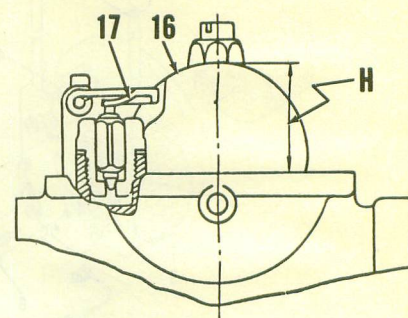
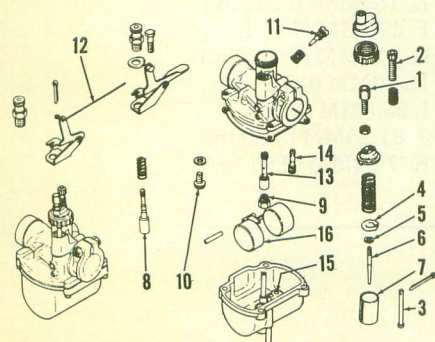

Fig. Y7-2—Float level (H) is adjusted by bending tang (17).
Fig. Y7-1—Exploded view of Mikuni VM carburetor. Starting valves for both carburetors are connected with rod (12).
CARBURETORS. Two Mikuni VM carburetors are used. Idle speed should be set at approximately 1,200 rpm by turning adjusters (2—Fig. Y7-1). Make sure that throttle slides (7) both stop at exactly the same position and exhaust pressure is the same for both cylinders.
Float level (H—Fig. Y7-2) should be 1 inch (25.5MM) and is adjusted by bending tang (17) on float. Refer to Fig. Y7-1 and the following standard specifications:
Before adjusting the pump control cable, it is important that the throttle cable guides (1—Fig. Y7-1) are correctly set. To adjust the throttle cable guides, turn the idle speed adjusters (2) all the way down, then synchronize cable guides (1) so that both the throttle slides (7) begin to move at exactly the same time when the hand grip is turned. The throttle cables